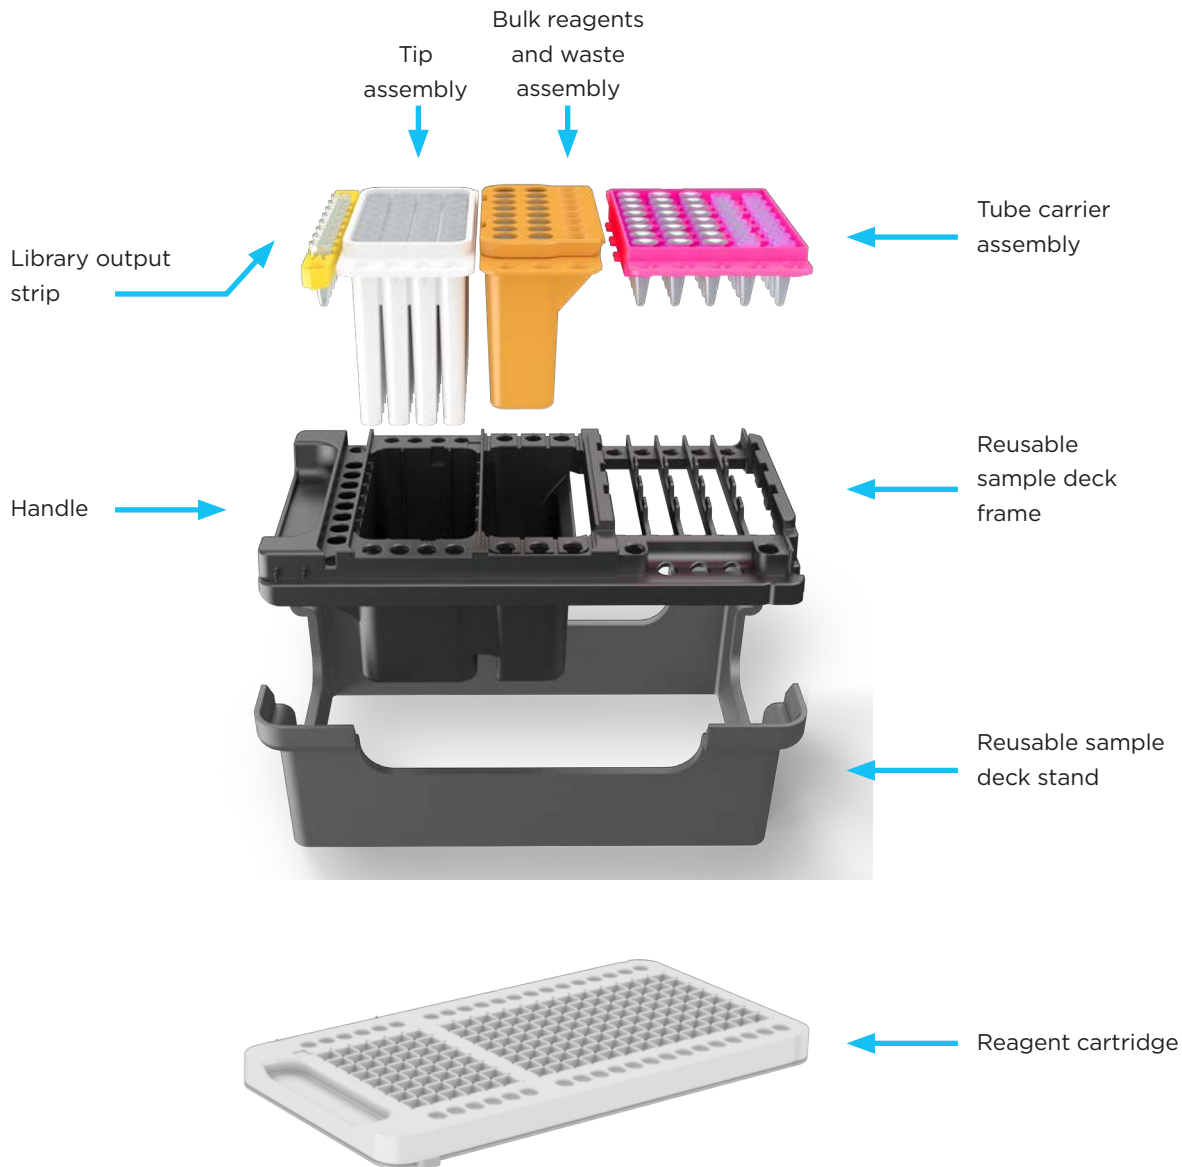

Figure 3. Sample deck components and reagent cartridge.
2. Place the box containing Revelo DNA-Seq Mech for MagicPrep NGS (Singular Genomics) sample deck components (Figure 3; kept at room temperature) on a laboratory bench and open it.
5. Completed libraries are in the Library Output Strip (Figure 3). Seal library output strip tubes with the included strip caps before removing them from the library output assembly. The left-most tube (with the handle facing towards you) contains the library representative of your first sample. See **Appendix 6.1** for library index sequence positioning.